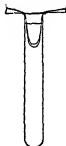

Fig 15
*b* Take again two nearly equal-sized, but smaller crystals of cupric sulphate. Fill two test-tubes with water. Put one of the crystals into one of the tubes. Drop the other crystal into the second tube (Fig 15), so that it is covered by the water, but rests on a narrow strip of ordinary paper. Note the time (?). Set both tubes upright in the rack. How long does each crystal take to dissolve? Account for the difference (?)
c On to a strip of paper dipping under water (Fig 15), drop a crystal of potassium permanganate (?) Explain (?)